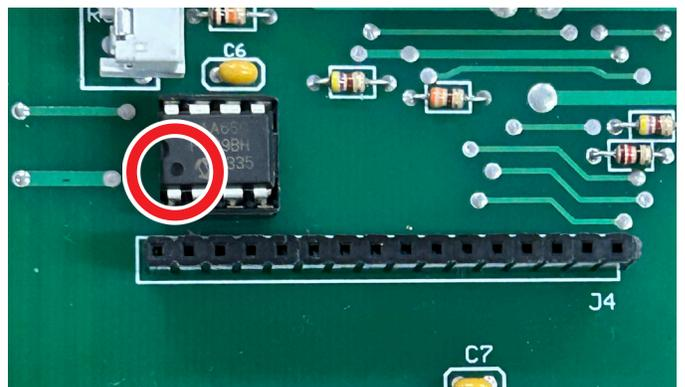

FIGURE 12—The red circle shows the indent dot on the EE prom chip.
- The EE Prom memory chip is installed the same way. Be sure that the indent dot in the bottom left corner of the chip is aligned with the bottom left corner of the outlet (see Figure 12).